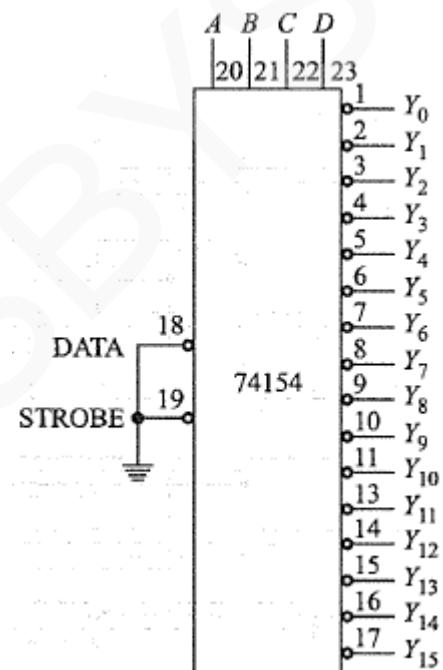

Figure 4.15: Using 74154 as decoder
- **74154** is called a **decoder-demultiplexer**, because it can be used either as a decoder or as a demultiplexer (Figure 4.15).